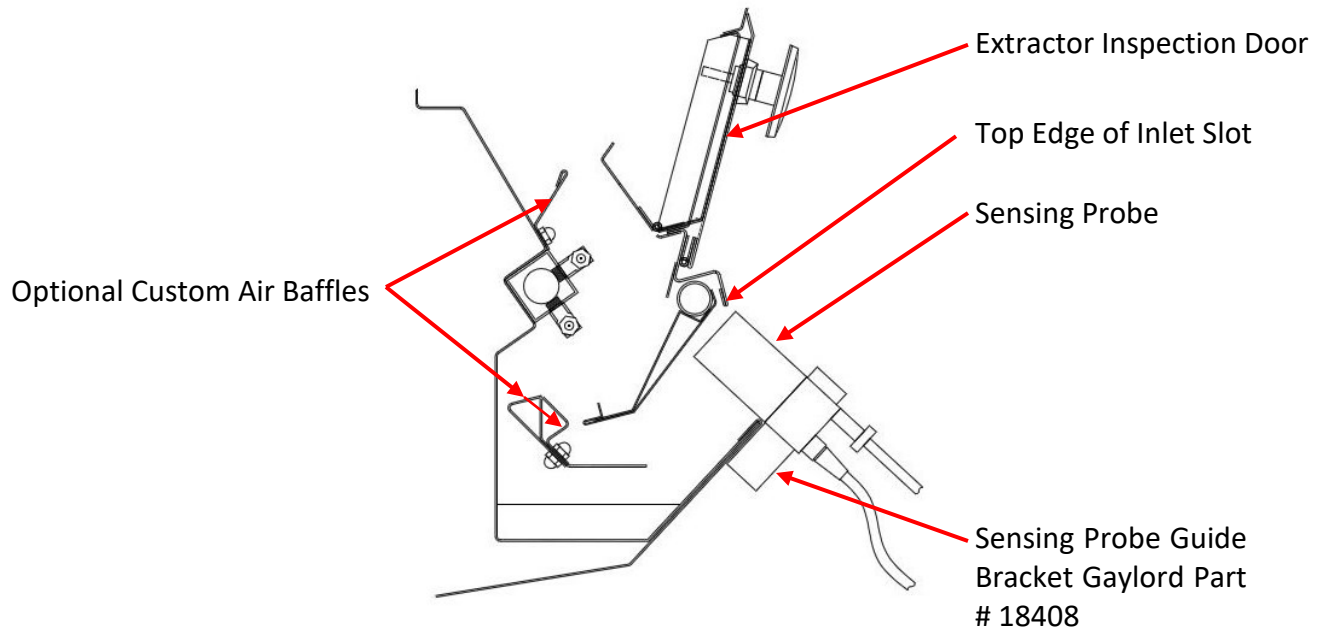

Figure 6-3-1
Important Note 2: Some Ventilators may include Custom Air baffles to reduce the exhaust volume over light duty cooking equipment (Refer to Figure 6-3-1 and 6-3-2). To determine if the Ventilator has Custom Air baffles, refer to the Gaylord Submittal Drawings and the Custom Air baffles will be noted on the front elevation. If not available, open the Extractor Inspection Door and look for the top Custom Air baffle (Refer to Figure 6-3-1 and 6-3-2).
10. Beginning at one end of the Ventilator, place the sensing head against the inlet slot as shown in Figure 6-3-1. Allow the meter to stabilize.
Important Note 1: If the Ventilator includes Custom Air Baffles (Refer to Figure 6-3-1) it will be necessary to take two sets of readings, one for the section of Ventilator that includes Custom Air Baffles and one where it does not. Non Custom Air and Custom Air readings must be recorded separately. Do not average them together.